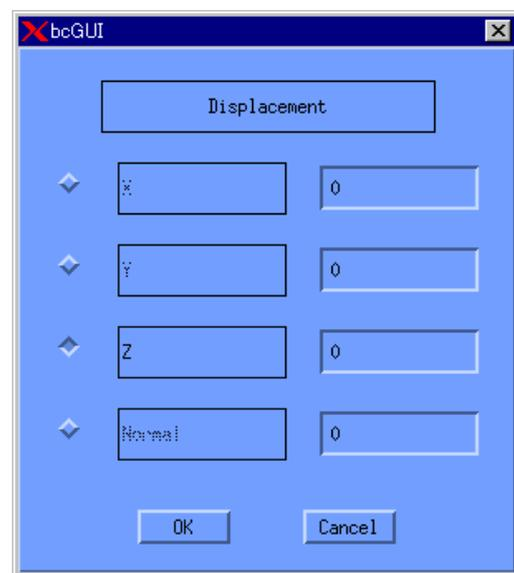

Fig. 8. Displacement in Z Direction Is Fixed
- Set the boundary condition by pressing the toggle button against the necessary component (Fig. 8).